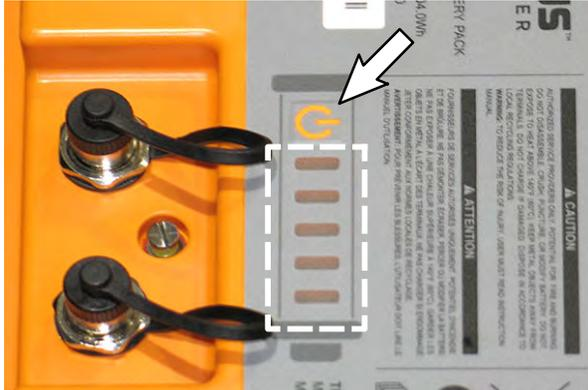

FIG. 18
1. Turn off the lithium battery pack. Press and hold the power button on one of the lithium batteries for 20 seconds to turn the entire battery pack off. (Fig. 18)